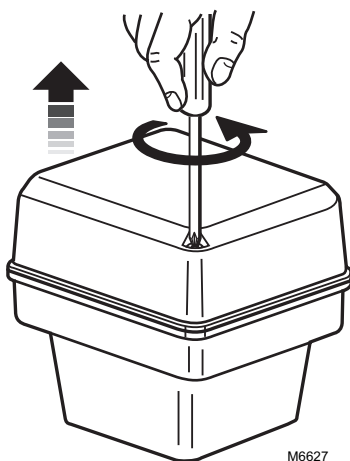

Fig. 4. Removing Actuator Cover.
6. Remove the cover from the actuator using a Phillips or crosspoint screwdriver (Refer to Fig. 4).